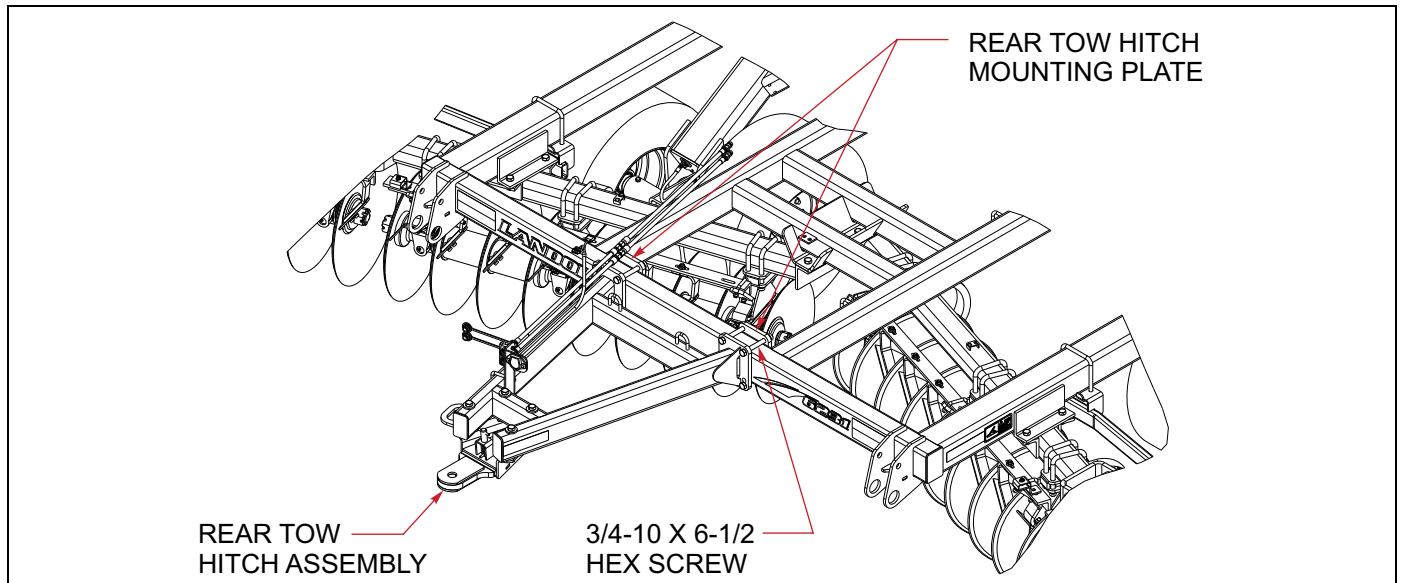

Figure 3-13: Rear Tow Hitch Installation
1. Attach the rear tow hitch assembly to the rear bar of the center frame using rear tow hitch clamp plates, 3/4-10 x 6-1/2 hex head cap screws, and hex lock nuts (See Figure 3-13.) The tow hitch should be centered on the back bar of the frame.